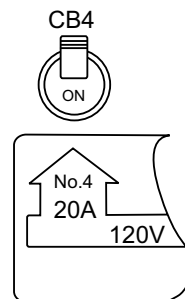

Figure 72. GFCI Circuit Breaker ON
2. Place the GFCI circuit breaker, CB4 (Figure 72) in the **ON** position.